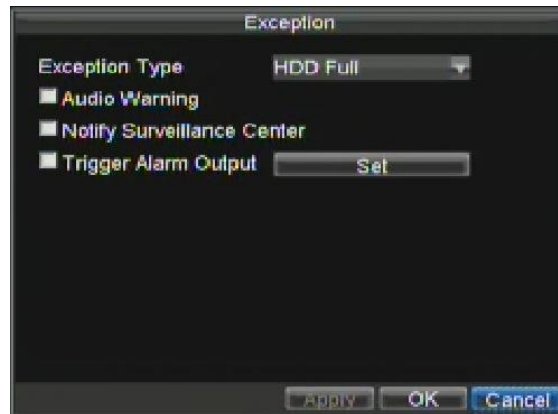

Figure 16. Exception Menu
3. Select triggering options, as shown in Figure 16. Trigger options are further explained in the next section (See **Understanding Exception Trigger Options**).